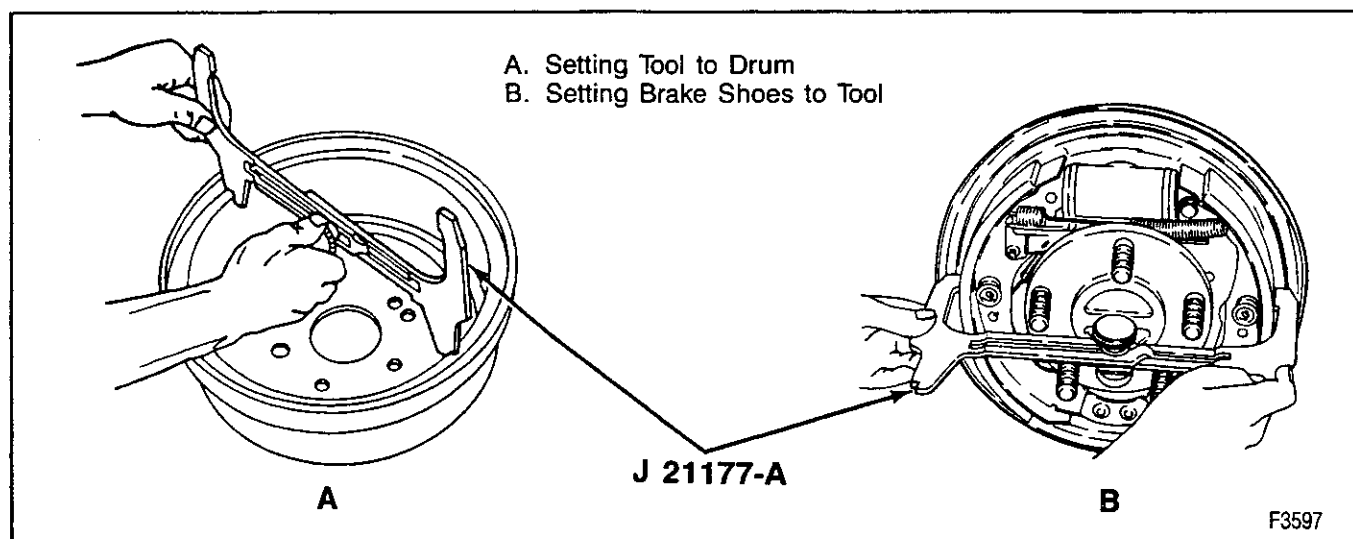

Figure 6—Measuring the Drum for Fit (Leading/Trailing)
7. Measure the drum's inside diameter (A) using J 21177-A (figure 6).
8. Turn adjuster nut (23) until lining diameter is 0.254 to 0.508 mm (0.010 to 0.020 in.) less than drum ID (B) for each rear wheel.